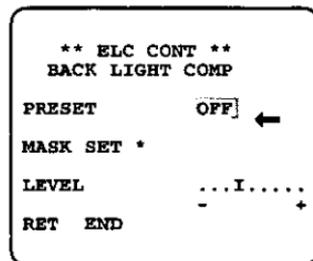

Fig. 39
- Press the Set Switch (9) to proceed to the Back Light Compensation menu as shown in Fig. 39.